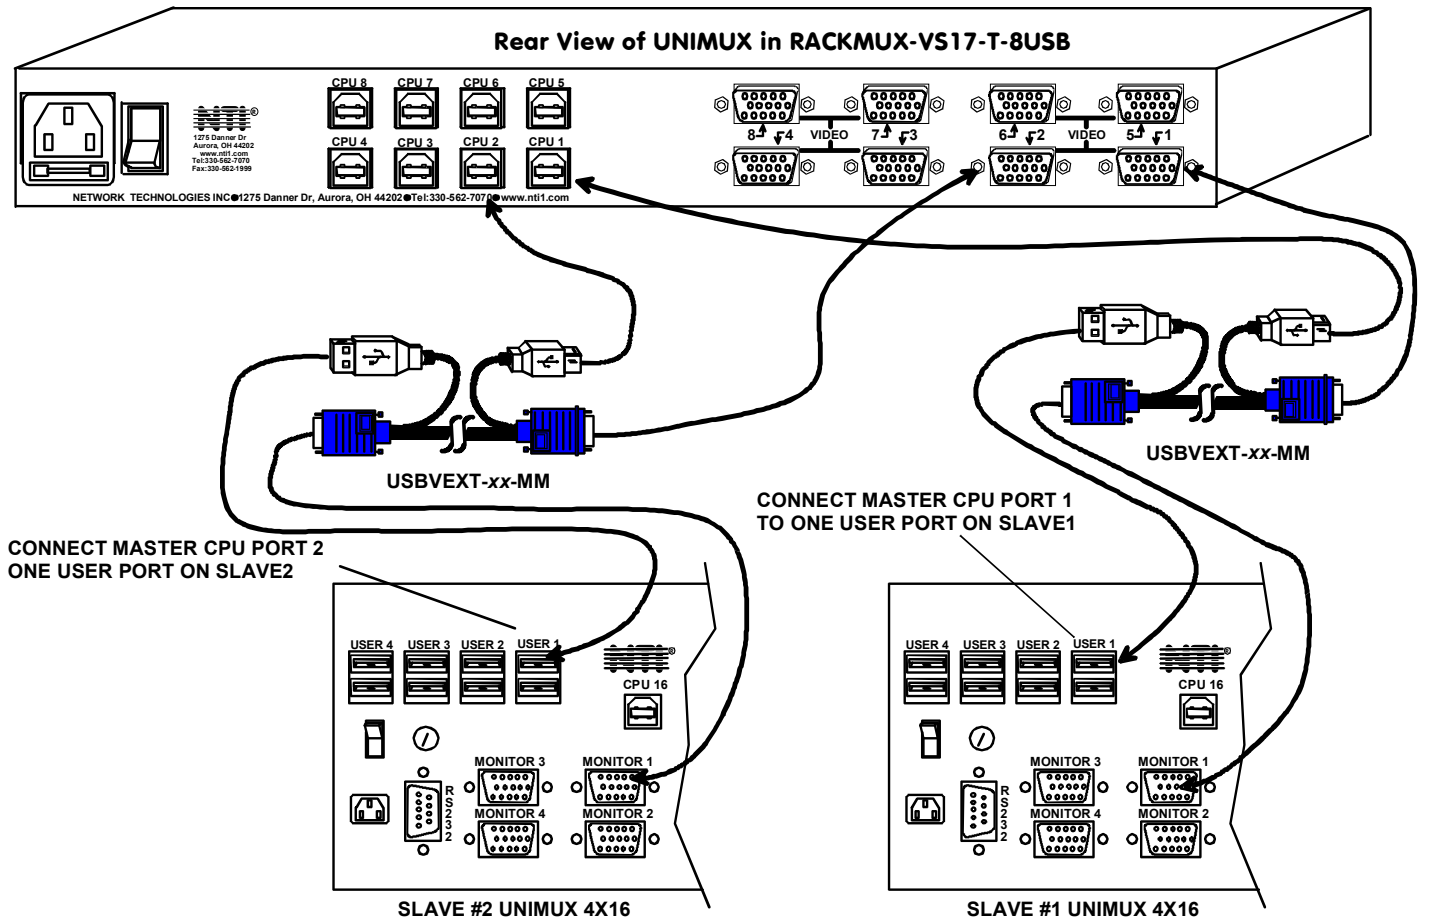

Figure 25- Master to slave cable connections- multi-user switches
- c. Repeat step b. & c. for each additional slave, keeping in mind that each slave will connect to the next available master's port (i.e. Slave #2 to master's VIDEO 2 & CPU 2, etc.) See Fig. 25 on page 22.